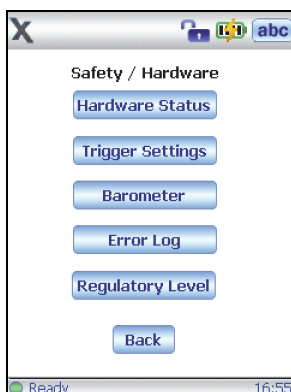

Figure E-9 The Safety/Hardware menu
2. In the **Safety/Hardware** menu, tap **Regulatory Level** (see Figure E-9 on page 158).